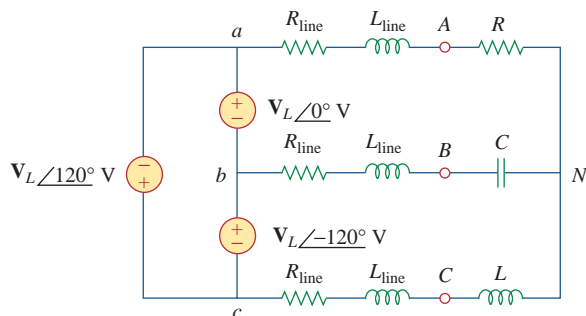

Figure 12.68
- 12.62** Using Fig. 12.68, design a problem to help other students better understand how to use *PSpice* to analyze three-phase circuits.